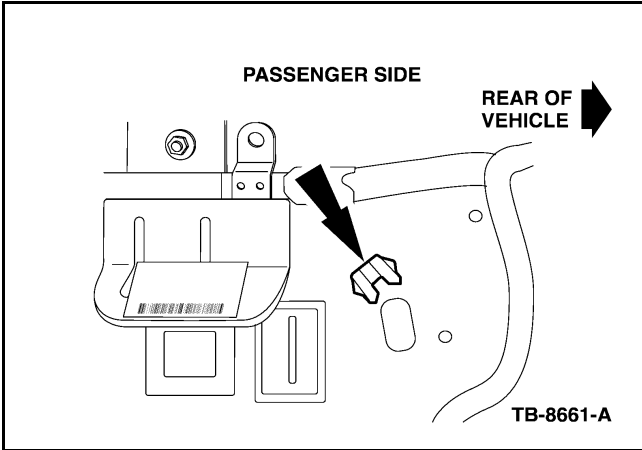

Figure 2 - Article 07-20-6
4. Remove the rear drain tube. Attach hose clip to existing hole for vehicle built after 8/14/2006. For all other vehicles attach the hose clip in the new hole. (Figure 2)